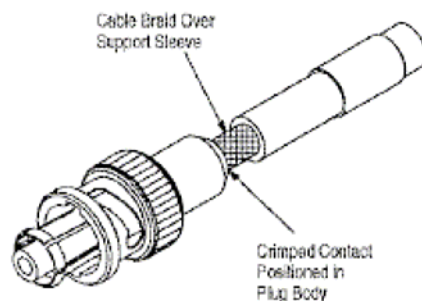

Figure 4
5. Insert crimped contact into plug body until it snaps into place. Make sure that the cable braid is positioned over the connector support sleeve. Pull back gently on the cable to ensure that the contact is held in place by the internal locking feature. See Figure 4.